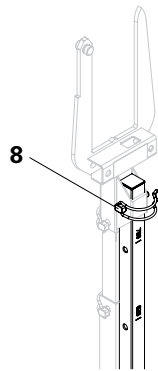

Fig. A4.02
1. Pull out the tube clip (8). (Fig. A4.02)